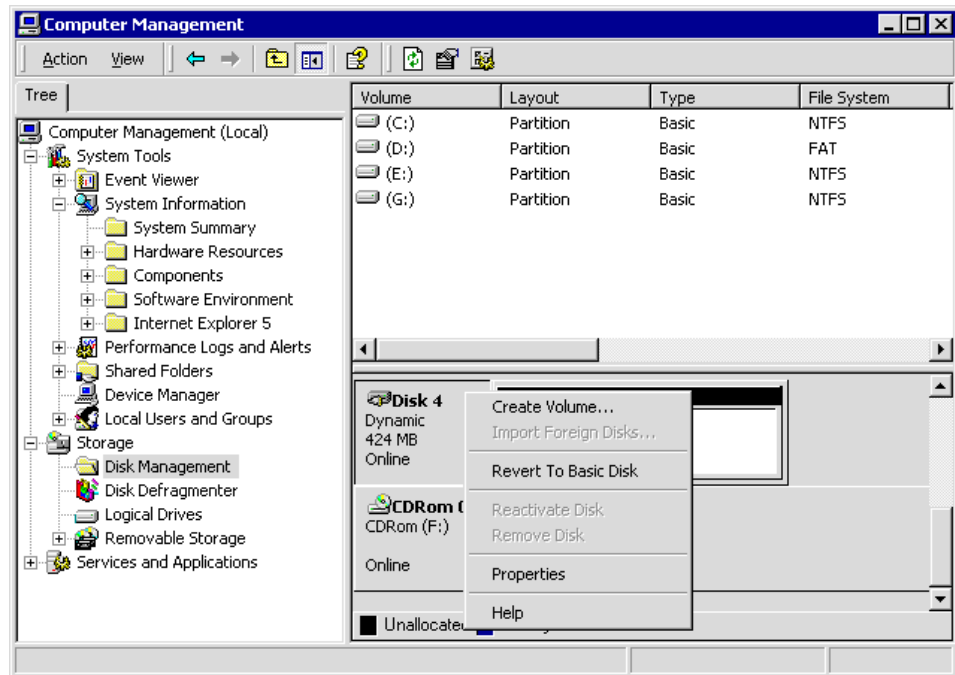

Figure 40. Changing a shared logical drive to Basic Disk
- 1) Right-click the **Disk** icon at the bottom of the Disk Management window (see Figure 40 on page 128).